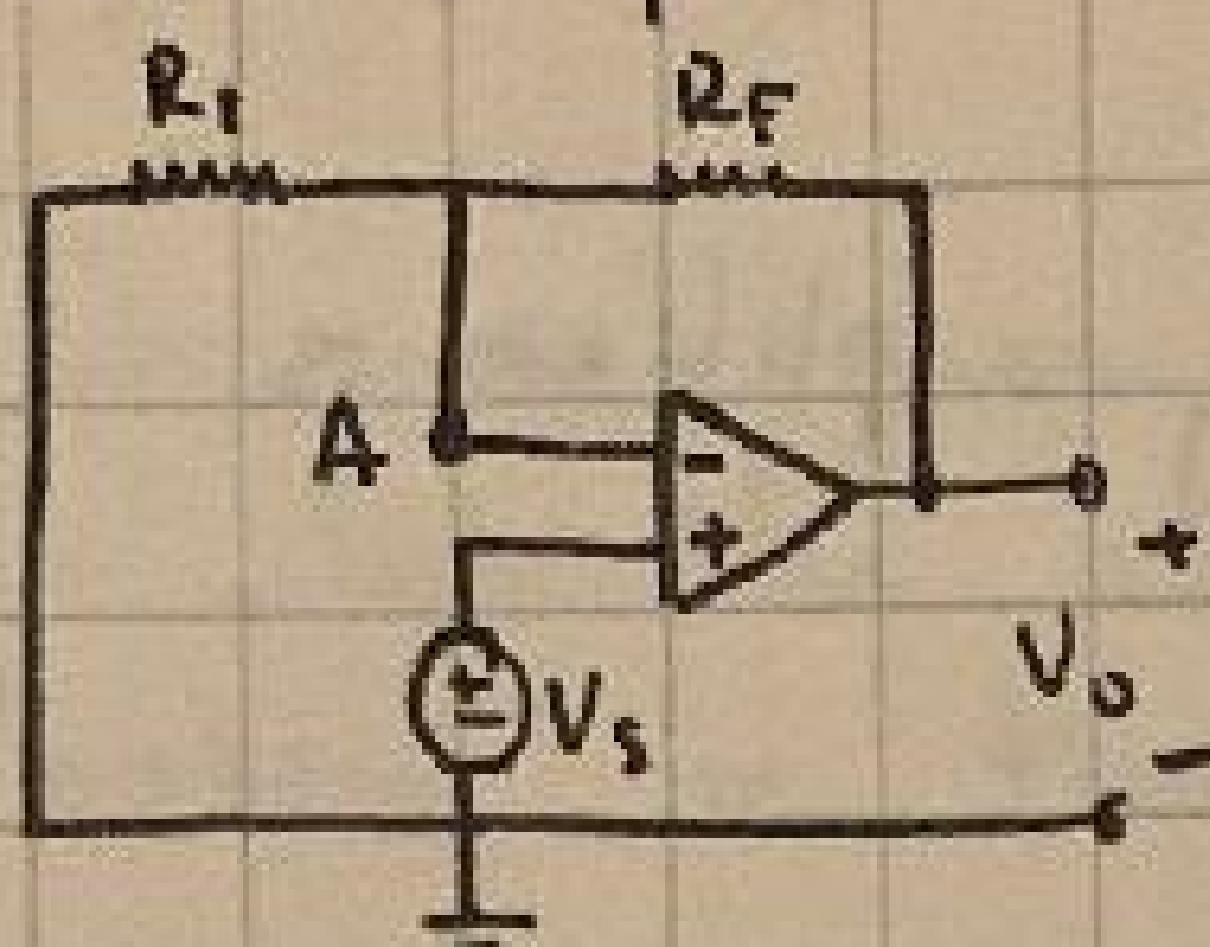

Figure 3-1: negative feedback op-amp circuit.
- ✓ 1. A virtual ground (or virtual short circuit) for an ideal op-amp used in a negative feedback configuration is a result of the voltage value at node A in Figure 3-1 getting continuously smaller as current flows through the circuit.